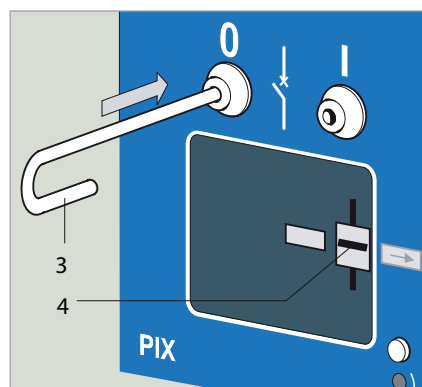

Figure 41
Insert the operating rod into the left-hand guide of the front door and press it right to the back (Figure 41, 3). The circuit breaker is switched OFF. The position indicator indicates **OFF** (4).